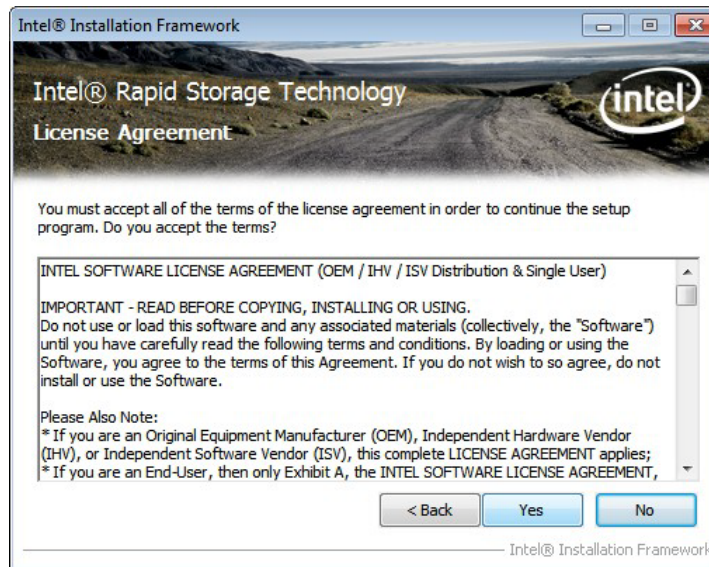

Figure 6-24: SATA RAID Driver License Agreement
Step 6: The license agreement in **Figure 6-24** appears.